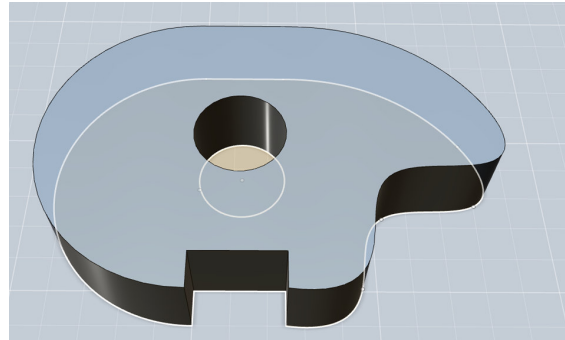

Figure 4-94 The selected sketch
4. When you select the sketch, a little white arrow will appear, along with a dialog box. As with other tools, you can either type in specific measurements or click and drag the arrow until you have the size you want. When you're satisfied, hit the Enter key (Figure 4-94).